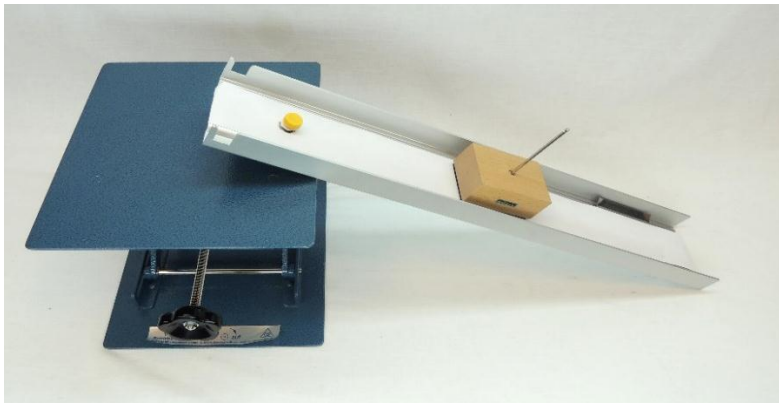

Figure 4.11: Setup of inclined plane.
- 1- Setup the device as shown in Figure 4.11.